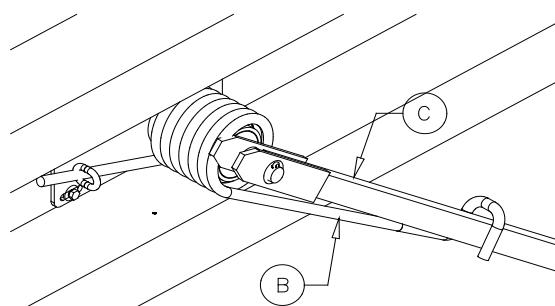

Figure 13
Position the bottom pivot arm (C) so it is hooked in the helical torsion spring (B) (see Figure 13).